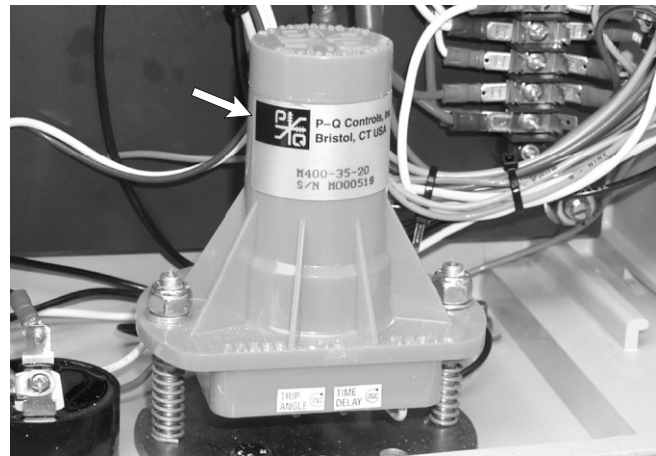

Figure 6.14—Level Sensor
3. Open the door on the lower control box to access the level sensor (refer to Figure 6.14).